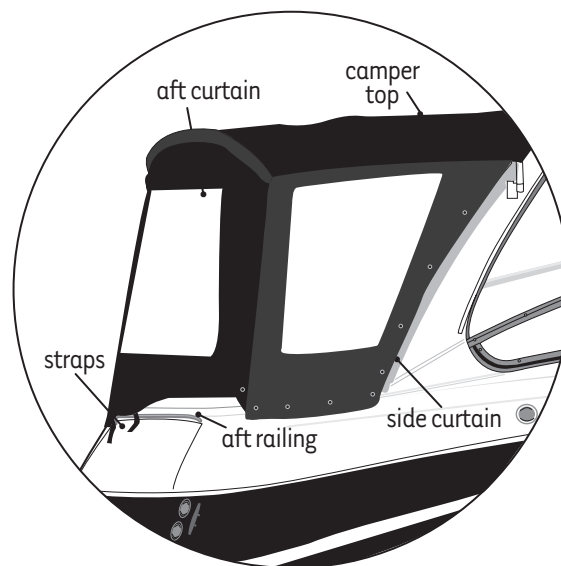

Figure 08: Camper Side & Aft Curtain Installation
- 6) Locate the aft curtain. See Figure 08.